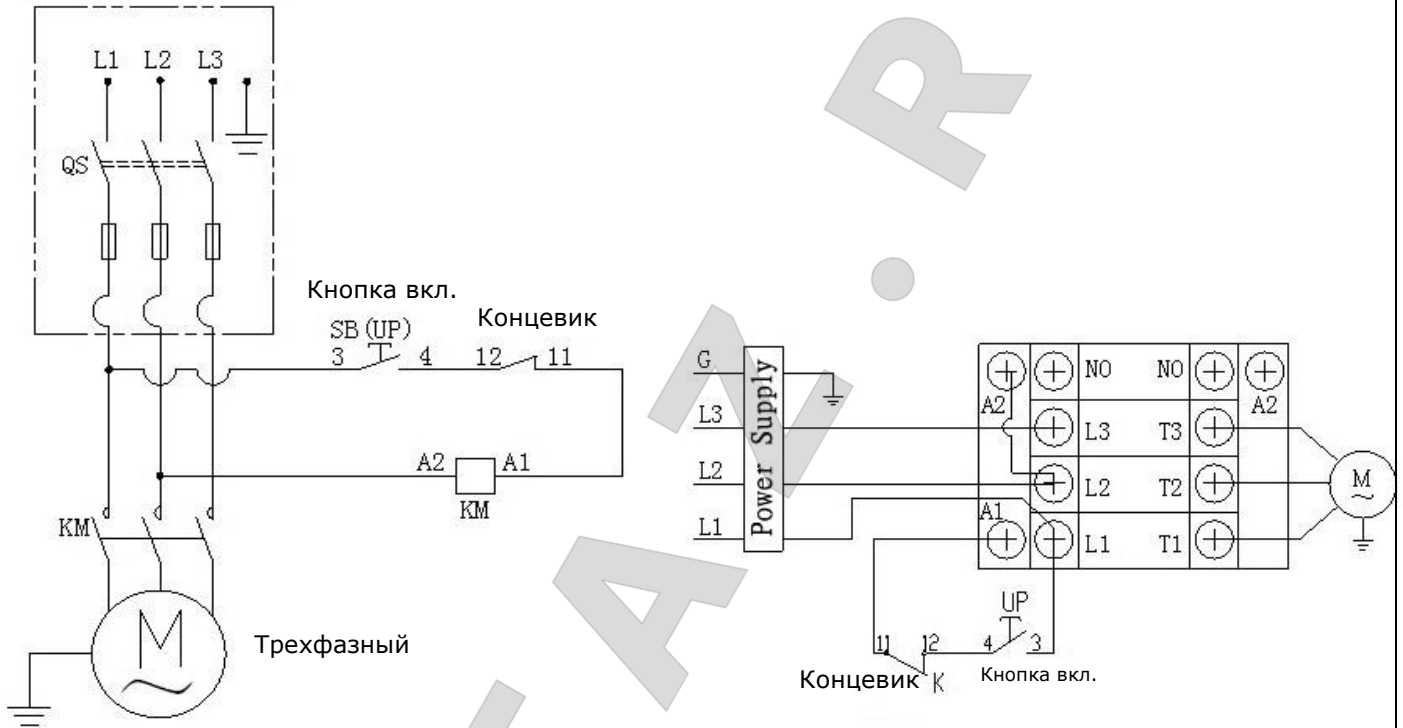

Рис. 48
1. Circuit diagram (See Fig. 48)